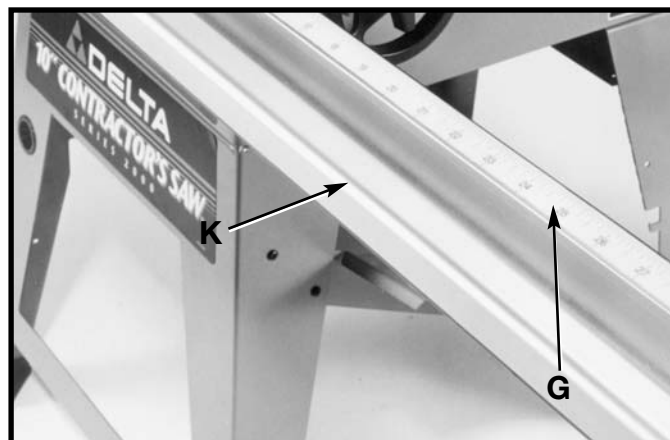

Fig. 55
4. Continue to assemble the scale (G) Fig. 55, along the entire length of guide rail (K). **IMPORTANT:** Make certain the scale is positioned **straight** on the guide rail.